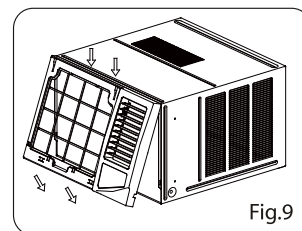

Fig.9
1. Hook the upper edge of the frame(see Fig.9).